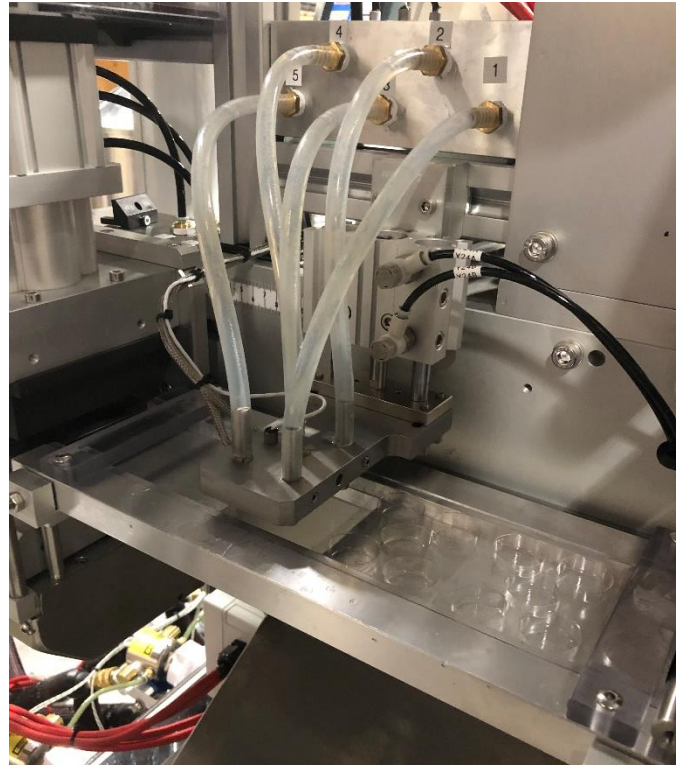

Figure 16
- To adjust position relative to tooling, loosen the (2) screws from the underside of web guide. (Figure 16)